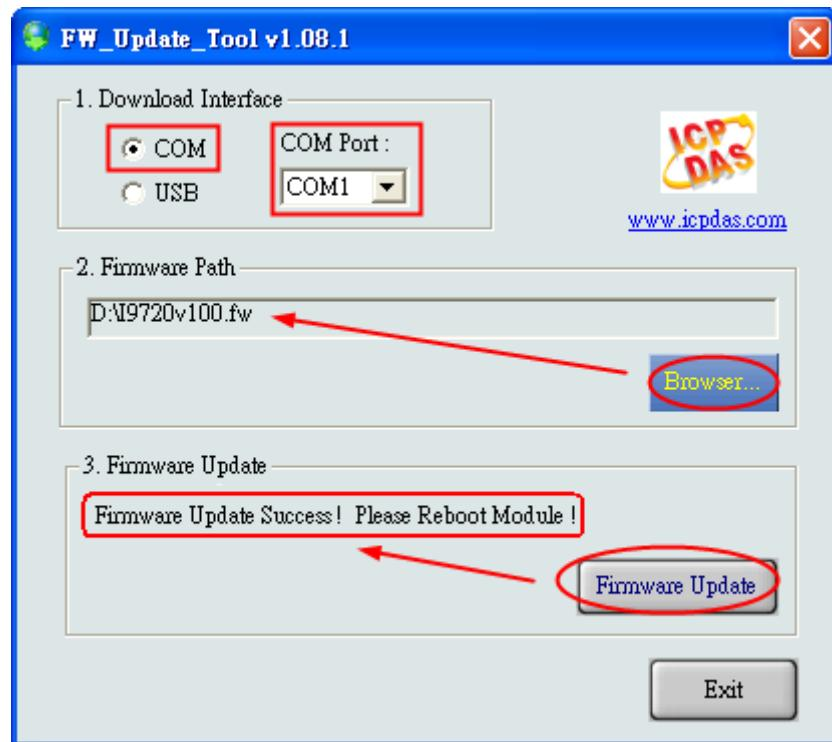

Figure 4-2 : “FW\_Update\_Tool”
- [4] “FW\_Update\_Tool” procedure: (Figure 4-2)